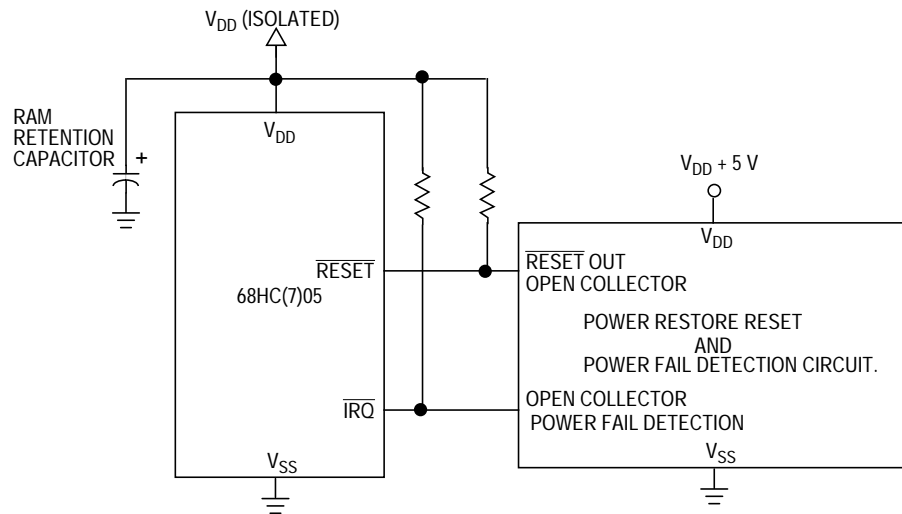

Figure 1. Power Fail and Power Restore Detection Block Diagram
**Figure 1** shows a possible hardware configuration to accomplish RAM retention during a power outage. The circuit provides two basic functions: